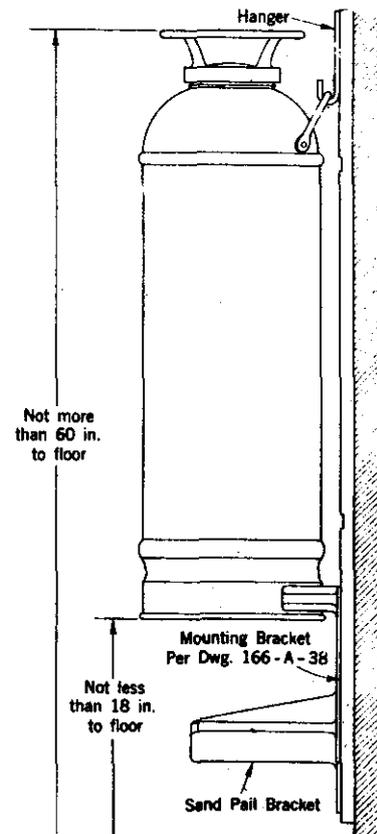

Fig. 2.
4.01 Extinguishers should be mounted as shown by Fig. 2.